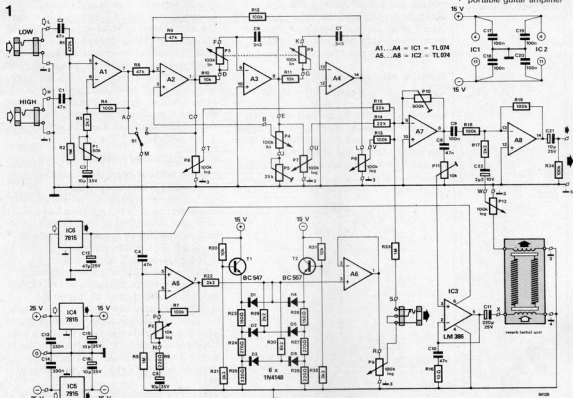

Figure 1. Circuit diagram of the pre-amplifier.
The VCF is a simplified version of that used in the Formant synthesizer (that used in the Formant synthesizer (see *Elektron (UK)* December 1977, page 12-27). It is built from opamps A2, A3 and A4 as shown in figure 1, which function as high pass, band pass, and low pass filter respectively. Stereo potentiometer P3 enables the setting of a specific turnover point, that is, the centre frequency of the band pass filter.
Unlike many other guitar amplifiers, the present one allows the continuous mixing of the original and overdriven sounds: this may be arranged by a foot switch connected to jack socket S (see figure 1). If only the overdriven sound is wanted, potentiometers P6...P8 must be turned off completely (wipers at earth).